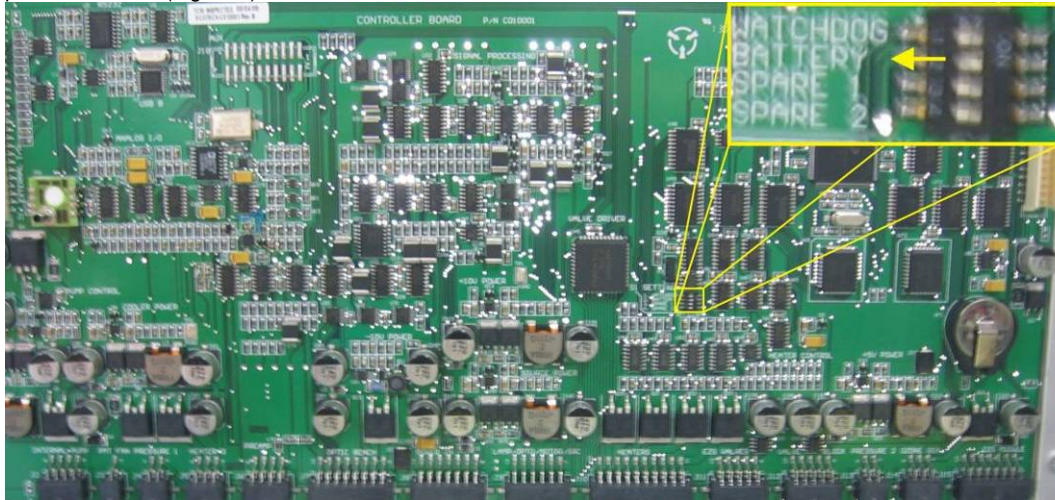

Figure 6. Switching battery off
- Check battery is turned on at main controller PCB (Figure 6)
\*if storing over long period (6 months) turn the battery off by switching the following switch on the main processor board (Figure 6) to the left